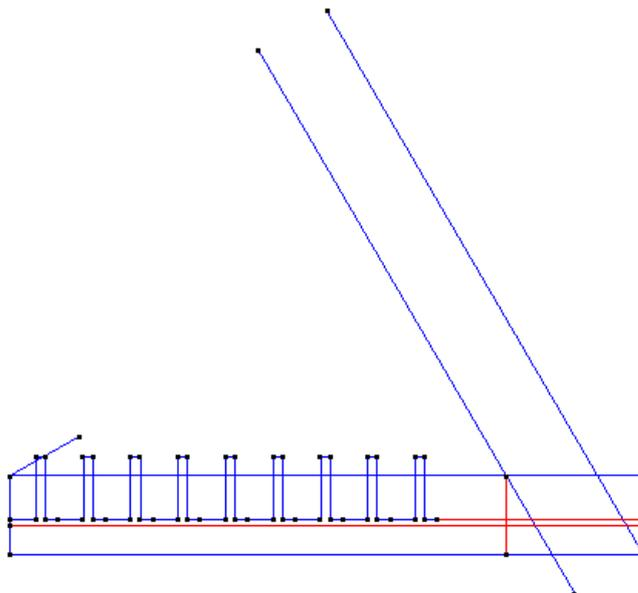

Figure 12. Selecting the lines to intersect
- 8 . Choose **Geometry->Edit->Intersection->Multiple lines**. Select the last two lines created and the vertical line segment coming down from the tangential center (see Figure 12). Press **ESC**.